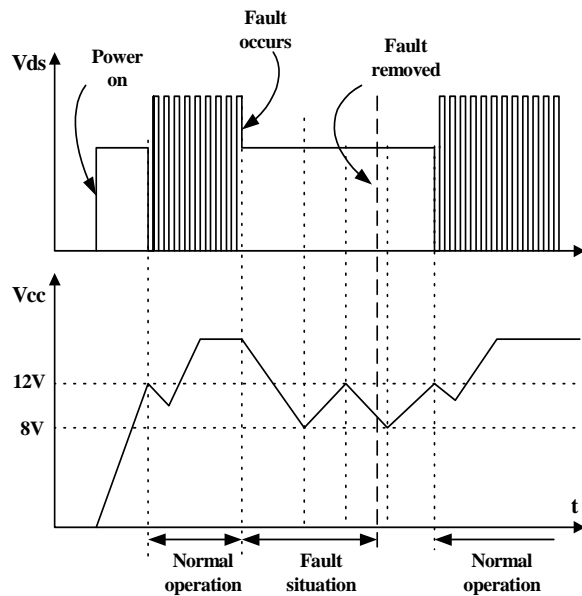

Figure 6. Auto Restart Operation
**3. Protection Circuit:** The FSDM1265RB has several self protective functions such as overload protection (OLP), over voltage protection (OVP) and thermal shutdown (TSD). Because these protection circuits are fully integrated into the IC without external components, the reliability can be improved without increasing cost. Once the fault condition occurs, switching is terminated and the SenseFET remains off. This causes Vcc to fall. When Vcc reaches the UVLO stop voltage (8V), the protection is reset and the internal high voltage current source charges the Vcc capacitor via the Vstr pin. When the Vcc reaches the UVLO start voltage (12 V), the FSDM1265RB resumes its normal operation. Thus, the auto-restart alternately enables and disables the switching of the power SenseFET until the fault condition is eliminated (see Figure 6).